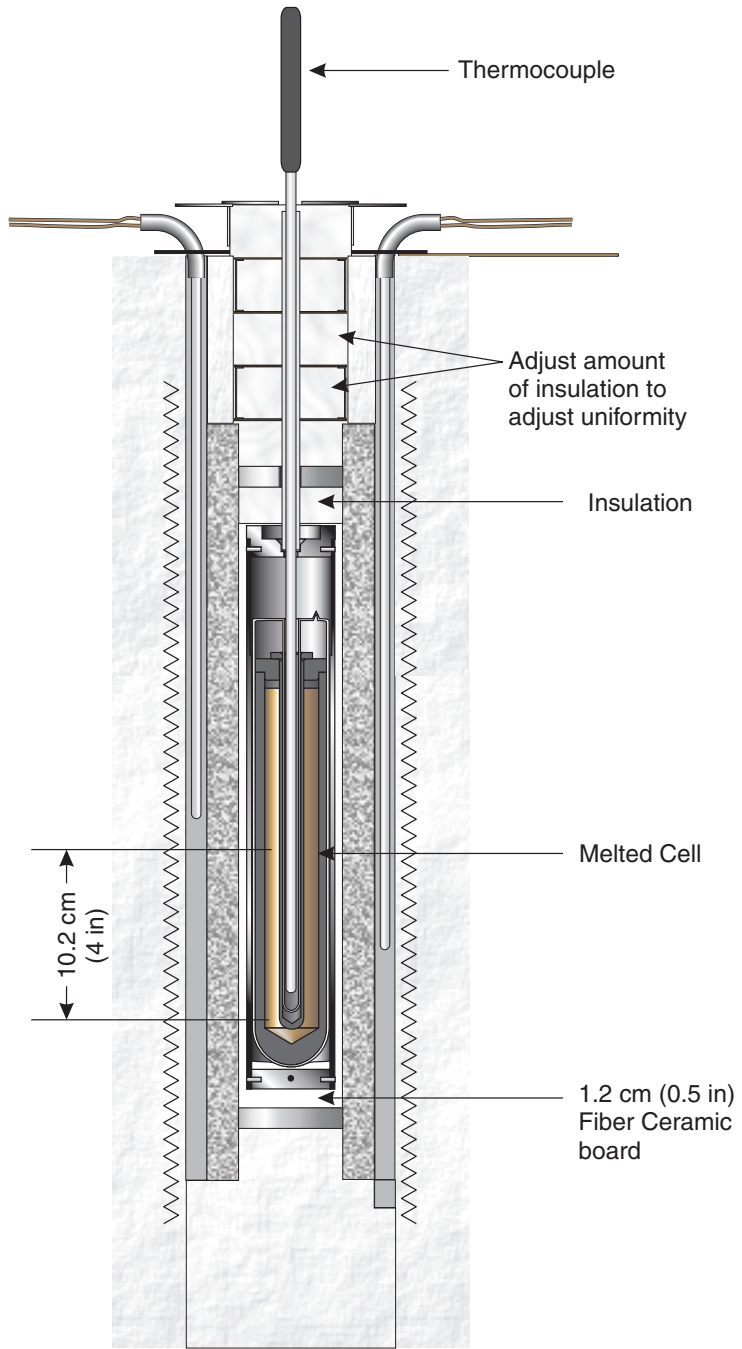

Figure 30. Testing Uniformity
- **Adjustment of Temperature Uniformity:** Vertical uniformity should be measured in a freeze point cell just below the melting point of the cell. The vertical temperature uniformity in the cell should be within the limit specified in Section 2.1, Specifications, for a distance of 10.2 cm (4 in) upwards from the bottom of the central well (See Figure 30 on page 74). A periodic check of the temperature uniformity using a Type R or Type S thermocouple is recommended at least once every year. If the vertical gradient is not within the limit specified in Section 2.1, Specifications, the heat pipe may not be functioning properly. Contact an Authorized Service Center.